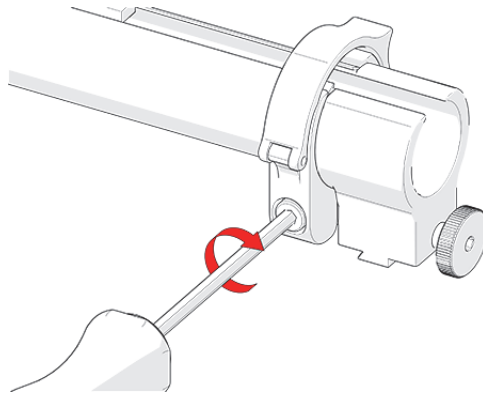

Figure 3-58 Tighten clamp screw
5. Tighten the clamp screw (see Figure 3-58 on page 72).